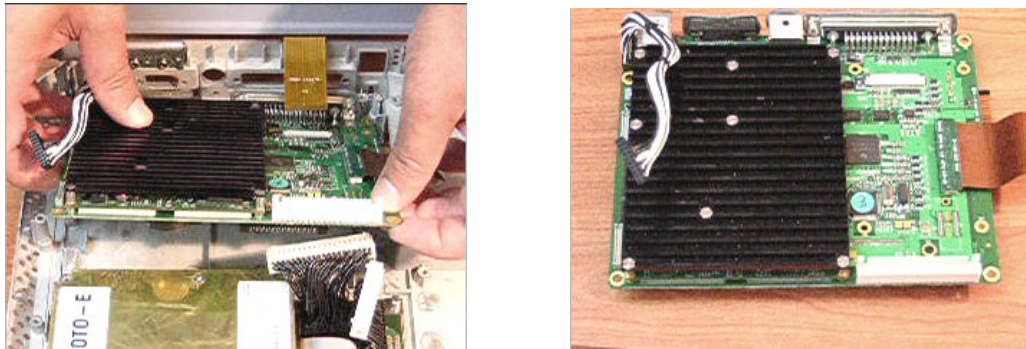

Figure 8-49 Removing the BEP from the Bottom Assembly
- 1) Carefully return the new BEP to the original position on the Bottom Assembly - refer to Figure 8-49 on page 8-41.